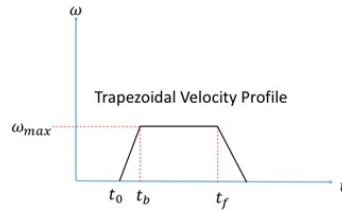

Figure 2: Trapezoidal Velocity Profile
- (e) **Determining optimal transmission ratio for velocity limited systems** Consider of using the trapezoidal velocity profile for the movement of the ball screw system (Fig. 2). This trajectory type allows the motor to apply constant torque (or acceleration) but limits the top speed ω_{max} of the system. As the top motor speed ω_{max} is bounded, the previous results on the optimal transmission ratio selection will not apply in this situation. A new optimal transmission ratio needs to be derived based on the travel time equation of the motor.